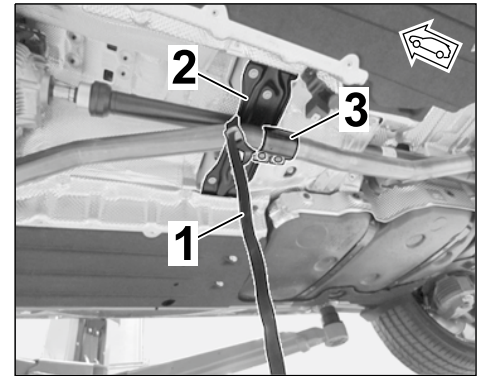

Figure 8
1.3.3 Secure catalytic converter exhaust pipe on the transmission support (⇒ *Figure 8*) using restraining strap for securing loads, for example, to prevent it from bending down.
- 3 (2) – Clamping sleeve, Ø 65 x 88